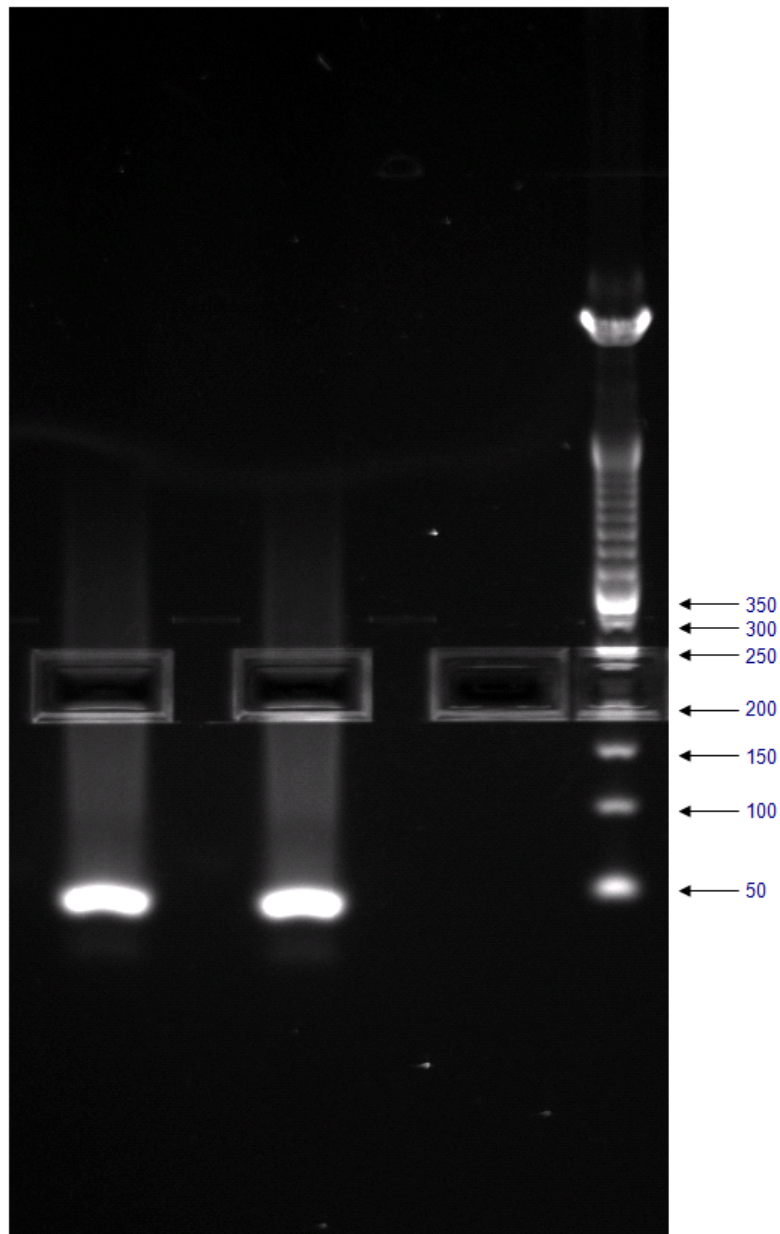

Figure 6 Elution of ~200- to 230-bp region from a SOLiD™ Library Size Selection gel.
5. When the 200-bp band from the marker (ladder) lane is at the bottom but still within the collection well, stop the run if the run has not already stopped (see Figure 6 on page 26).